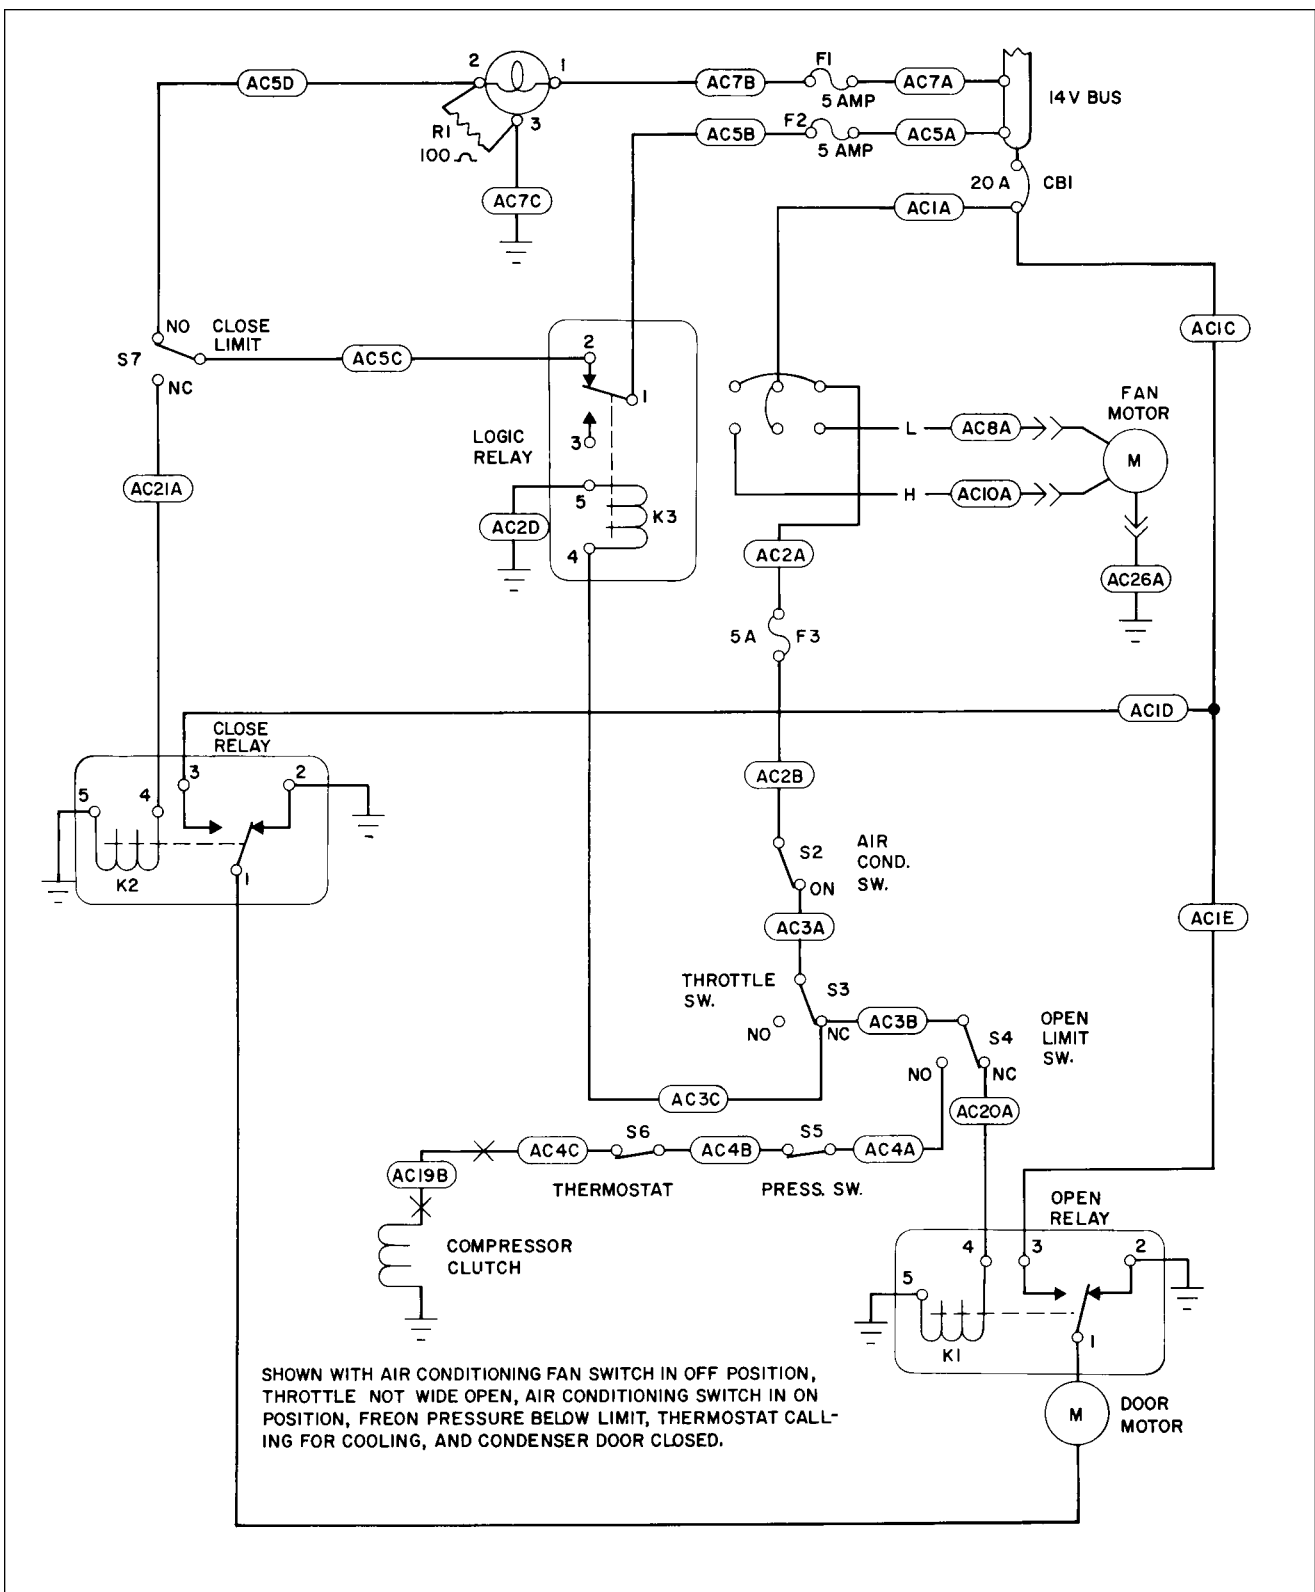

Figure 21-17. Air Conditioning Wiring Schematic
8. Make and check electrical connections. (Refer to Figure 21-17.)